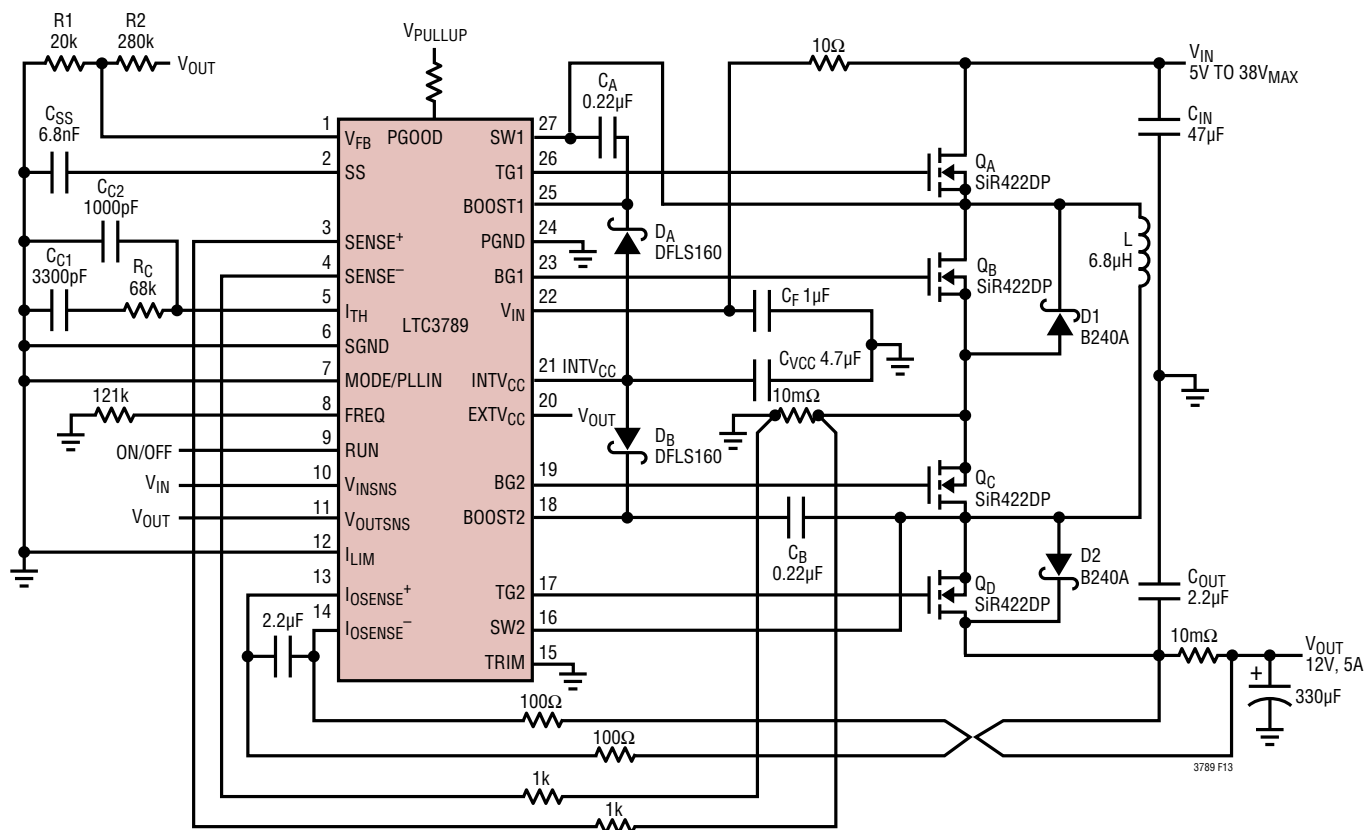

Figure 13. LTC3789 12V/5A, Buck-Boost Regulator
Referring to Figure 13, the external bootstrap capacitors CA and CB connected to the BOOST1 and BOOST2 pins supply the gate drive voltage for the topside MOSFET switches A and D. When the top switch A turns on, the switch node SW1 rises to VIN and the BOOST1 pin rises to approximately VIN + INTVCC. When the bottom switch B turns on, the switch node SW1 drops to low and the boost capacitor CA is charged through DA from INTVCC. When the top switch D turns on, the switch node SW2 rises to VOUT and the BOOST2 pin rises to approximately VOUT + INTVCC. When the bottom switch C turns on, the switch node SW2 drops to low and the boost capacitor CB is charged through DB from INTVCC. The boost capacitors CA and CB need to store about 100 times the gate charge required by the top switches A and D. In most applications, a 0.1μF to 0.47μF, X5R or X7R dielectric capacitor is adequate.
- Flood all unused areas on all layers with copper. Flooding with copper will reduce the temperature rise of power components. Connect the copper areas to any DC net ( $V_{IN}$  or GND). When laying out the printed circuit board, the following checklist should be used to ensure proper operation of the LTC3789. These items are also illustrated in Figure 13.